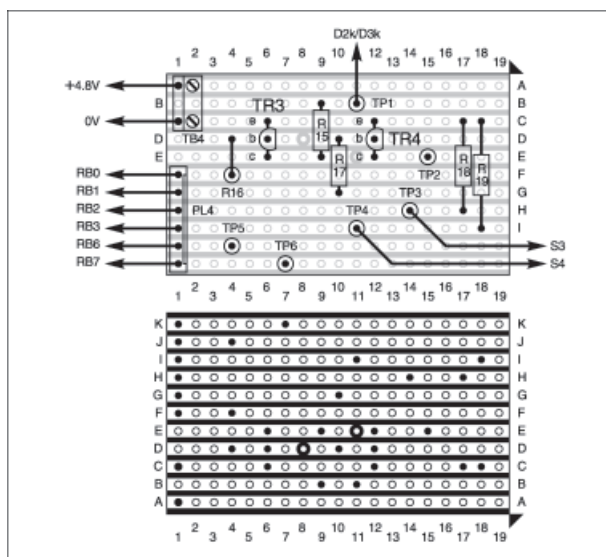

Fig.3.10. Distribution stripboard component layout and wiring. The completed board is shown above right.
Build the board as shown in Fig.3.10. The positive supply at terminal TB4 does not directly connect to items on the board. Instead it acts as an anchor-point for the positive supply wire coming up from the Processor board (Part 1 Fig.6).
The common positive connecting wire begins at the positive screw terminal of the Distribution board (Fig.3.10), and runs to the anode of D5 (green right flashing l.e.d.), S4, S3, anode of D3 (right white l.e.d.), LDR R3, anode of D2 (left white l.e.d.) and the anode of D4 (red left flashing l.e.d.).
Other connections to be made are: Distribution board, as in Fig.3.10, Ultrasonic board transducer connections,
- A 6-way cable with a 6-way header socket at one end (to mate with PL4, Fig.3.10) and an 8-way cable at the other (to mate with PL2 on the Processor board). The two additional lines on PL2 (RB4 and RB5) are connected to the 2-way cable from the Bumper board.